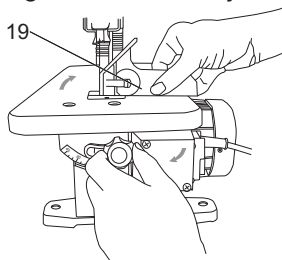

Fig. 5
- > Use a small square (20) (not supplied) to set the table at 90° to the blade. (Fig. 5)
- > When the space between the square and the blade is minimal tighten the bevel lock knob (4).